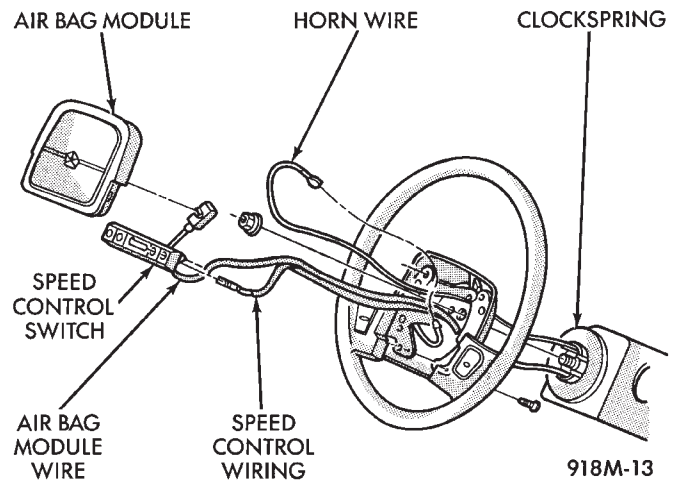

Fig. 11 Steering Wheel Wiring
- (1) If the clockspring is not properly positioned or if front wheels were moved, follow the clockspring centering procedure before installing steering wheel. With the front wheels in the straight ahead position. Position the steering wheel on the steering column. Making sure to fit the flats on the hub of the steering wheel with the formations on the inside of the clockspring. Pull the air bag and speed control wires through the lower, larger hole in the steering wheel and the horn wire through smaller hole at the top. Make sure not to pinch wires (Fig. 11).
- (2) Install retaining nut, and tighten it to 61 N•m (45 ft. lbs.) torque.
- (3) Connect horn wiring lead.
- (4) Connect 4-way connector to speed control switch and attach switch to steering wheel.
- (5) Connect air bag lead wire to air bag module, and secure module to steering wheel.
- (6) Do not connect negative battery cable. Refer to Air Bag System Check for proper procedure.